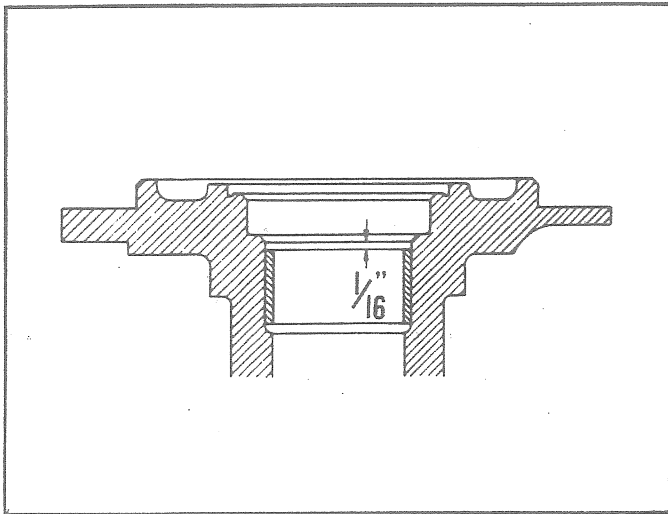

Fig. 130 - Correct Bushing Location
4. Press new bushing (if removed) into spindle with the bushing positioned $\frac{1}{16}$ in. lower than chamfer of spindle seal seat. See Fig. 130.